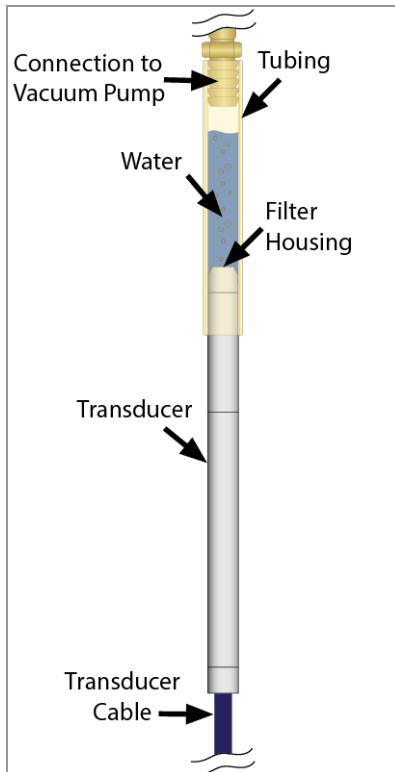

FIGURE 2: 4500C Saturation
1. Attach the tube to the transducer as shown in Figure 2.